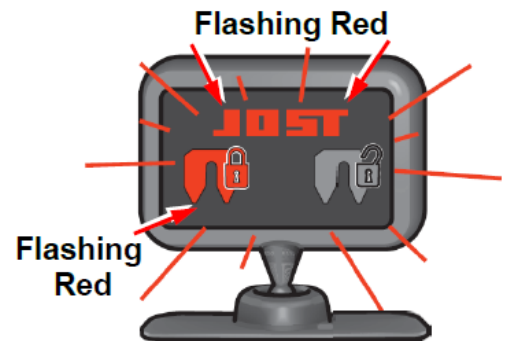

FIGURE 20
C. After 5 seconds, the dash display should flash red and an audible alarm sound (see figure 20).